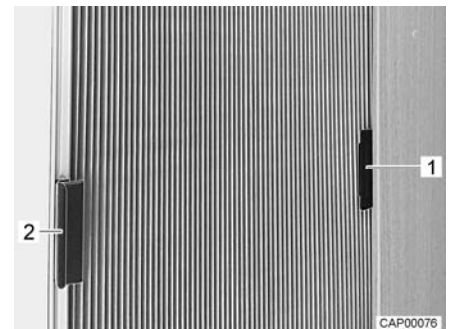

Fig. 12 Roman shade for side pane (closed)
- Push the handle (Fig. 12,1) of the Roman shade into the cap (Fig. 12,2). Thus, the Roman shade is secured against closing involuntarily.